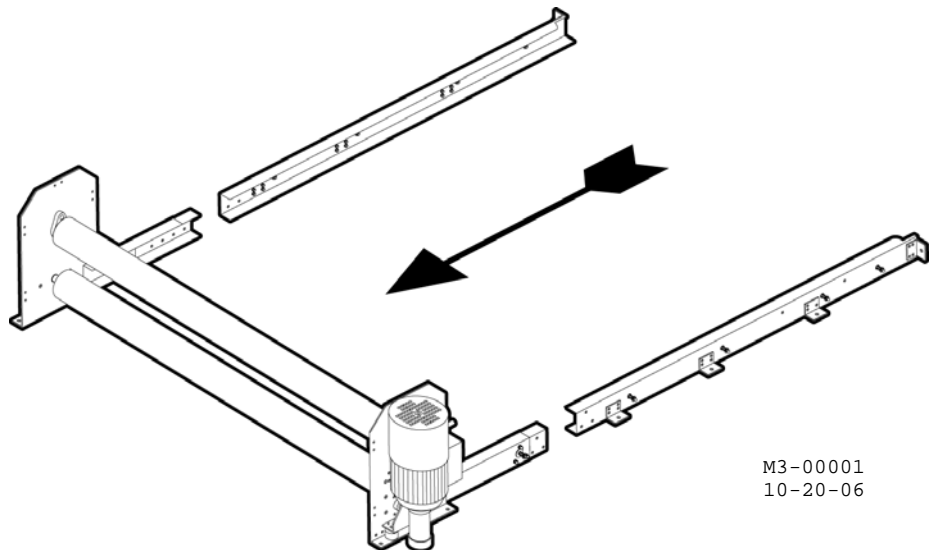

Figure 2-6: Attaching the Side-guides
3. Layout the side guides on the floor. Install side guide by sliding it into the junction post, making sure to insert the top stud through lower drive assembly. See Figure 2-6.